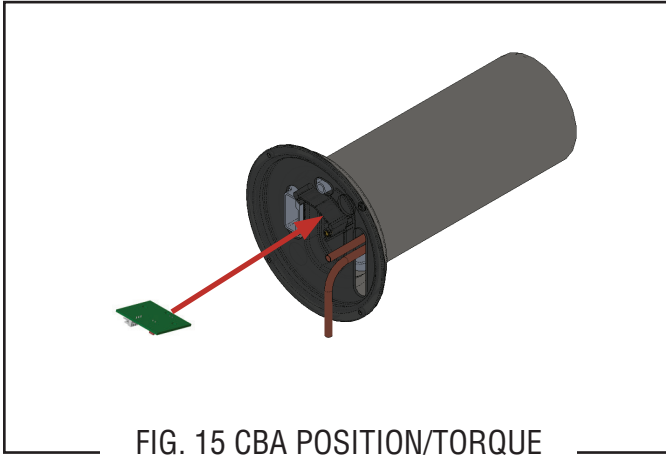

FIG. 15 CBA POSITION/TORQUE
6. Gently remove torque sensor board from drum housing slots. See FIG. 15.